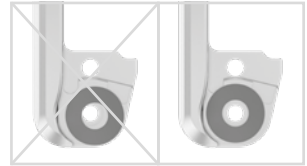

fig. 11
- 5 Apply spray adhesive on one side of the second sliding washer and adhere it to the cover plate (fig. 11).